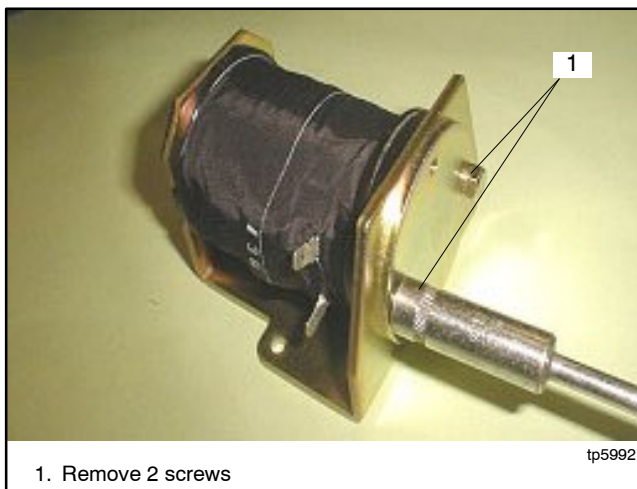

Figure 7-10 Disassembling the Coil Assembly
1. Remove two screws from the core plate. See Figure 7-10.
3. Install the core plate and tighten the two core plate screws. See Figure 7-10.